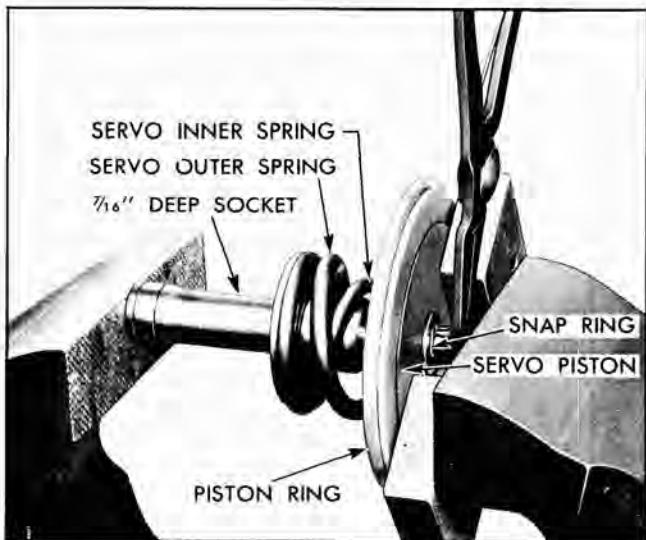

Fig. 105 Method of Removing Snap Ring from Servo Piston Pin
1. Place a $\frac{7}{16}$ " deep socket over the long end of the servo piston pin (Fig. 105).
2. Position a "U" shaped spacer against the piston end of the piston assembly and place the socket, piston assembly and "U" shaped spacer between the jaws of a bench vise (Fig 105).